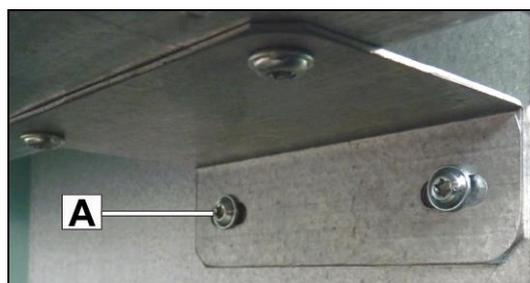

Fig. 3.22
9. Remove the screws **A** securing the inverter box angle bracket to the suction duct (Fig. 3.22).